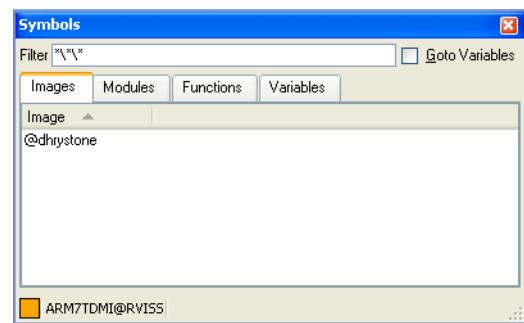

Figure 13-1 Symbols view
1. Select **Symbols** from the **View** menu to display the Symbols view. Figure 13-1 shows an example:
1. Select **Symbols** from the **View** menu to display the Symbols view. Figure 13-1 on page 13-7 shows an example.